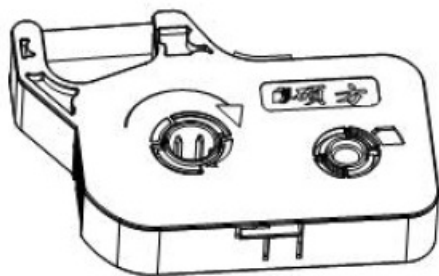

Figure 1 Tighten the Ribbon
1. See Figure 1. Tighten the ribbon according to the direction of arrow on ribbon cassette.